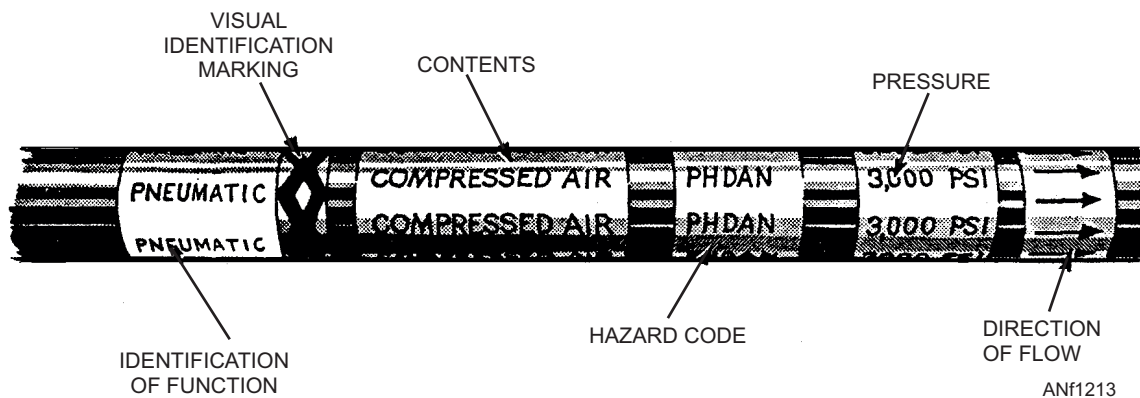

Figure 12-13.—Fluid line identification application.
Identification tape codes indicate the function, contents, hazards, direction of flow, and pressure in the fluid line. These tapes are applied according to MIL-STD-1247. This Military Standard was issued to standardize fluid line identification throughout the Department of Defense. Figure 12-13 shows the application of these tapes as specified by this standard.
- Physically dangerous materials (PHDAN). A line that carries material that is asphyxiating in confined areas or is under a dangerous physical state of pressure or temperature. For example, the line shown in figure 12-13 is marked PHDAN because the compressed air is under a pressure of 3,000 psi.